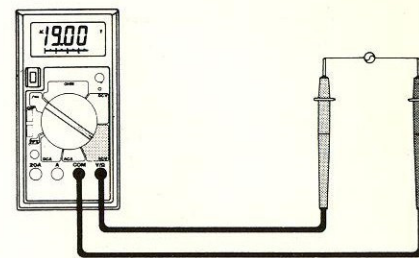

Fig. 5-3 AC Voltage Measurement
2. Set the function switch to the AC V range to be used and connect the test leads across the source or load under measurement. See Figure 5-3.